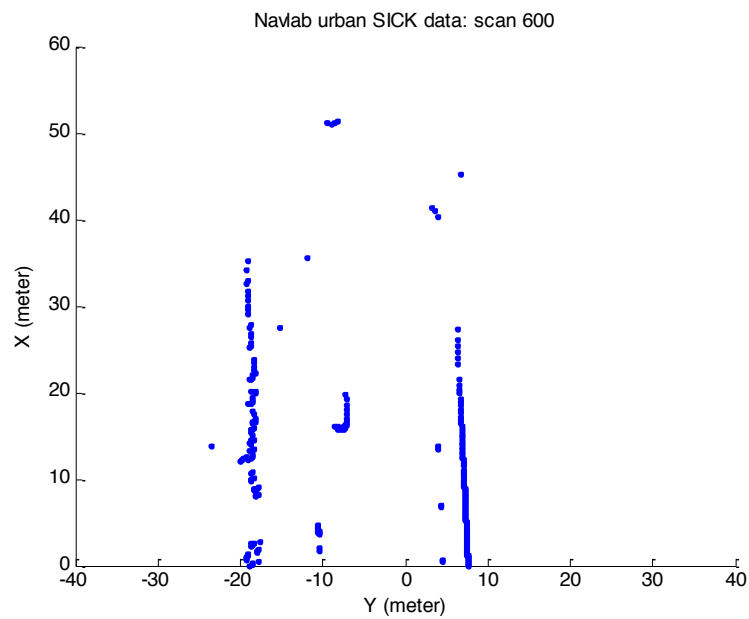

Figure 2: A scan example of the Navlab urban dataset
- c. CMU Navlab urban dataset: run “laserShowNavlab.m” in Matlab to see the Navlab urban data set. Figure 2 shows a scan example.